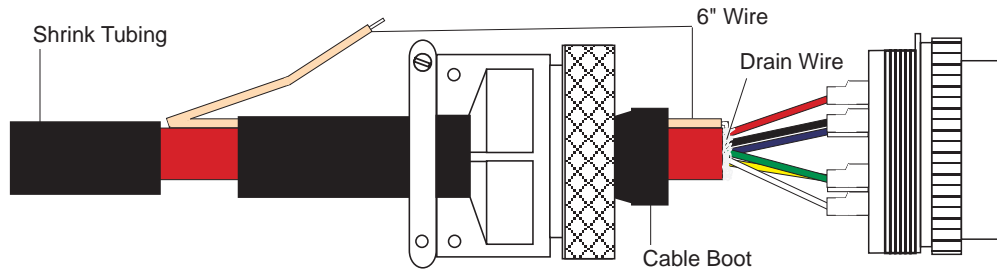

Figure 2: Drain Wire Connection
2. Solder approximately 6" of additional drain wire to the shield wires and route the lengthened drain wire through the cable boot (see Figure 2). Assemble remaining connector parts.